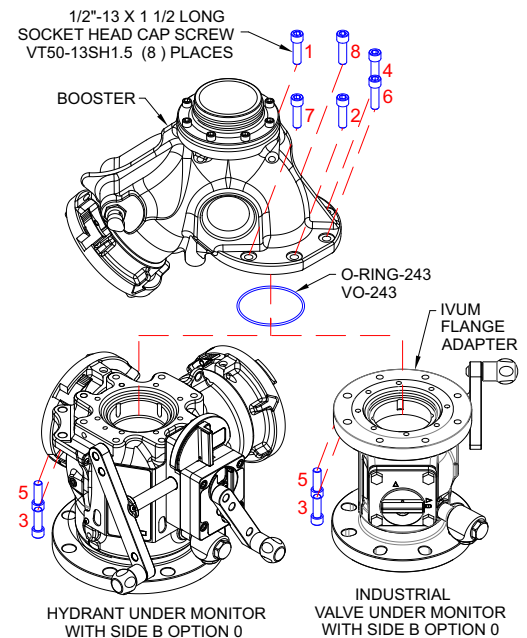

Figure 4.2.1
4. Apply Loctite 242 (blue) thread-locking adhesive to (8) supplied 1/2-13 x 1.5" screws, then hand tighten into the locations shown until the screw heads are bottomed out. Screw numbers 3 and 5 are inserted up thru the HUM or IVUM, then into the Booster. The other six screws are inserted through the Side A Inlet flange of the Booster.
5. Tighten the (8) screws to 40 to 45 ft-lb (54-61 N-m) torque in the alternating sequence shown on Figure 4.2.1. Tighten at graduated intervals of 30%, then 60%, and finally 100% of the specified torque.